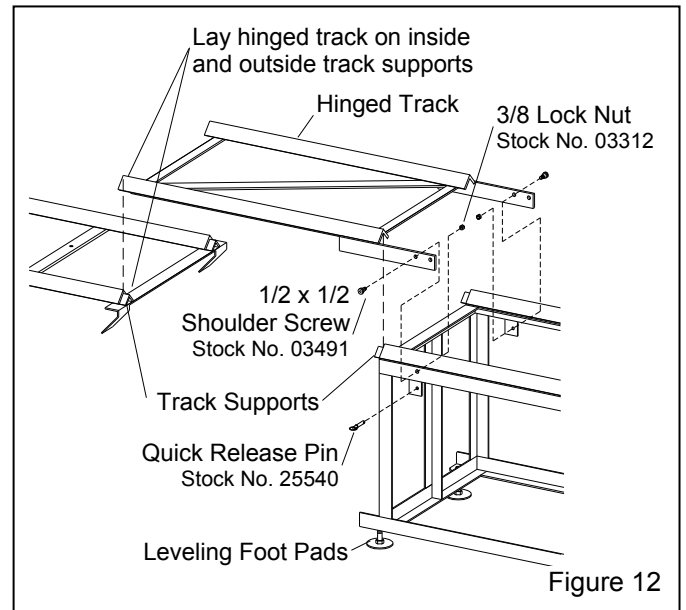

Figure 12
3.4.4 Attach hinged track, refer to Figure 12
3.4.4.1 With the door open, place the hinged track on the inside and outside track supports, as shown in Figure 12. Maneuver the outside track as needed to align the hinge track bolt holes with the outside track bolt holes, while making sure hinge track is fully resting (with no gaps) on the track supports.
3.4.4.4 The quick release pin holds the hinge track when in the raised position, as shown in Figure 12.